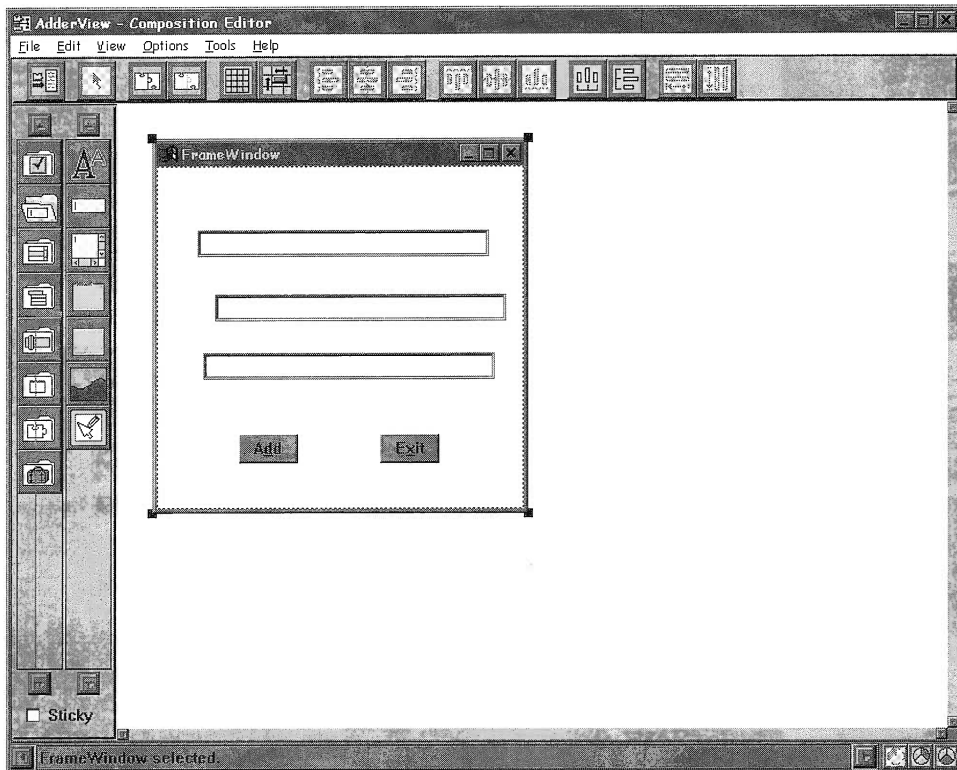

Figure 42: Adding three IEntryField controls
- ☐ Repeat this step two more times so there are three entry fields on the screen as shown in Figure 42.